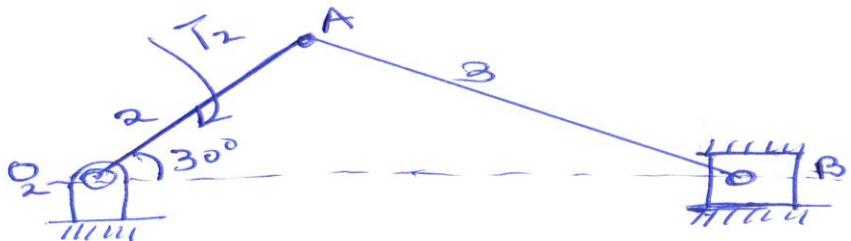

FIGURE 1
- Draw the free body diagram of figure 1 (5 Marks)